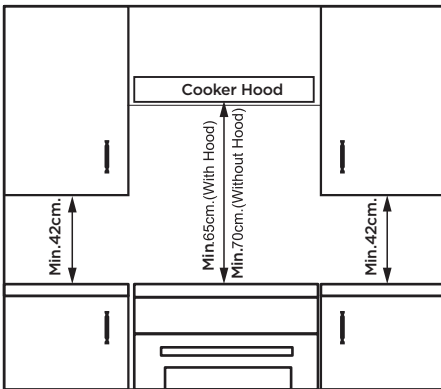

Figure 1
4. Place the wall cabinets adjacent to the hood at a minimum height of 42cm from the hobs as indicated in figure 1.
5. The hoods must be installed according to the requirements in the hood handbook. Should the cooker be installed beneath a wall cabinet, the latter should be situated at least 70cm away from the hobs as indicated in figure 1.
6. The cut-out for the cooker cabinet should have the dimensions indicated in the figure 1. The wall in contact with the back of the cooker must be of flameproof material .